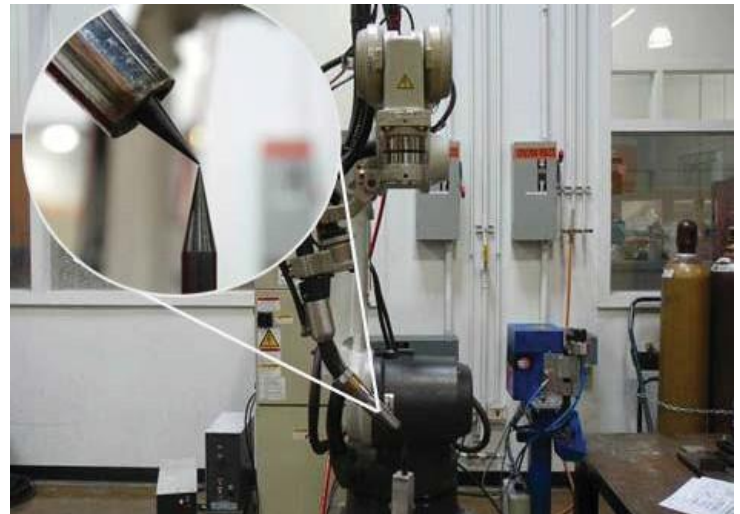

Figure 8
- Set up a pointer and move the robot with Cartesian motion using "X" "Y" and "Z" so that the pointer and the torch are aligned. (Figure 8)